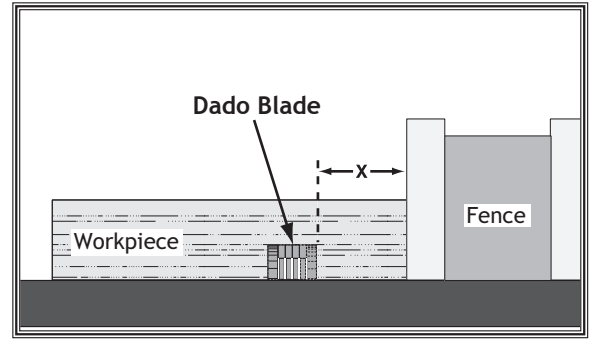

Figure 59. Example of a dado cut with a dado blade.
Commonly used in furniture joinery, a dado is a straight channel cut in the face of the workpiece. Dadoes can be cut using either a dedicated dado blade or a standard saw blade. **Figure 59** shows a cutaway view of a dado cut being made with a dado blade.
2. Adjust the distance between the fence and the inside edge of the blade, as shown in **Figure 59** on **Page 44**.